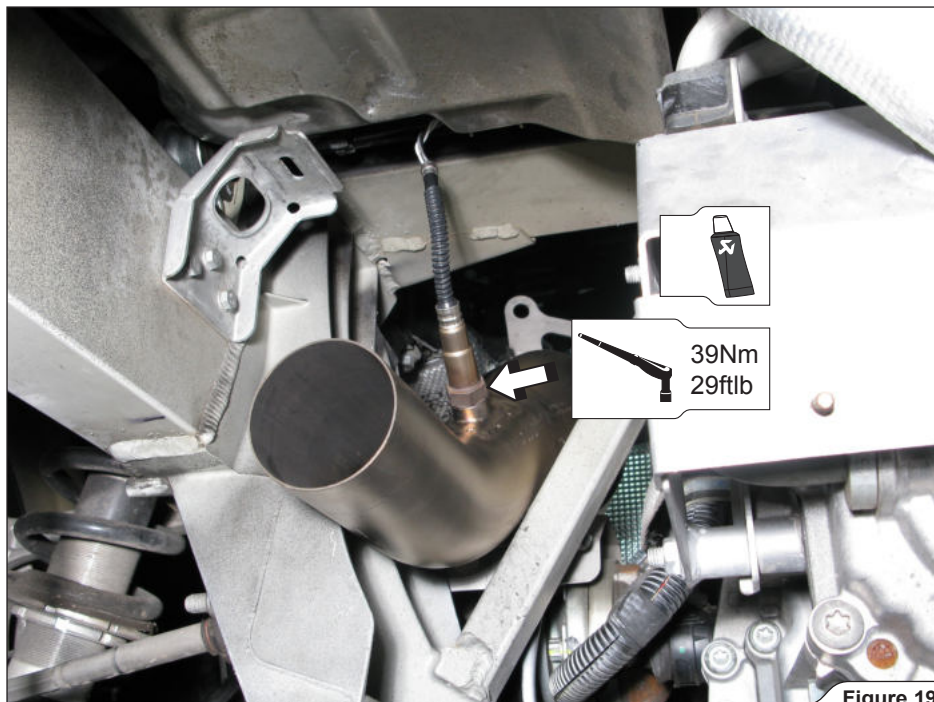

Figure 19
3. **For optional Link Pipes only:** install the lambda sensor and tighten it to the specified torque, on both Link Pipes (**Figure 19**).